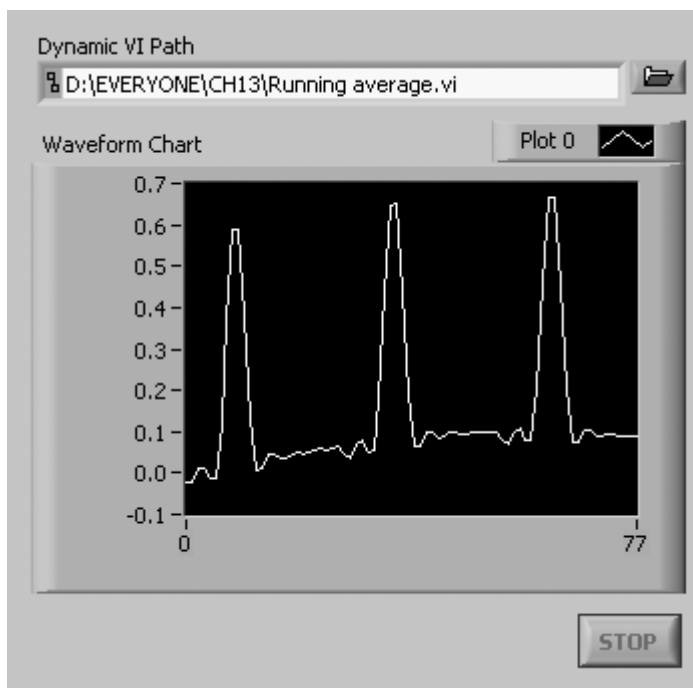

Figure 15.43
1. Create **Running average by reference.vi**, as shown in Figures 15.43 and 15.44.